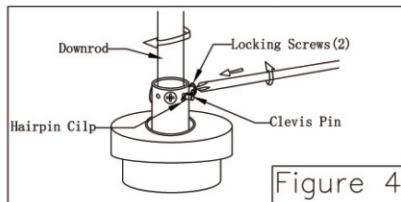

Figure 4
- Thread down rod into the down rod support on top of the motor. Install the clevis pin by aligning the hole in the down rod support with holes in the down rod. Secure clevis pin with hairpin clip. Tighten the two setscrews with in the down rod support. (Figure 4)